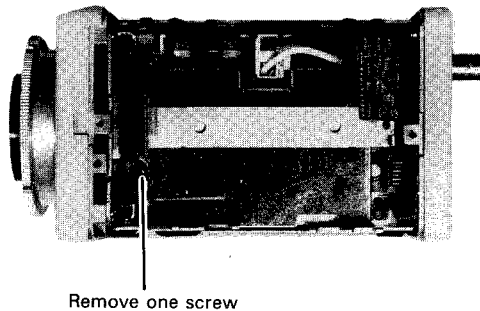

Fig. 3-1
- Referring to Fig. 3-1, remove one screw that secure the Front Chassis and remove the Front Chassis.